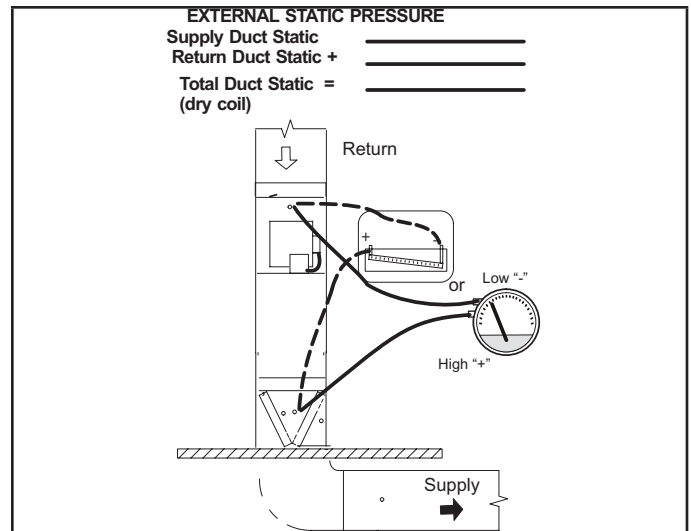

FIGURE 18
- 1 - Tap locations shown in FIGURE 18.